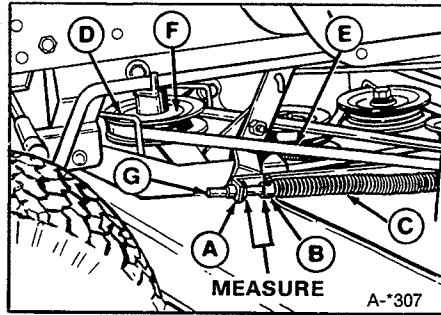

Figure 32. Mower Belt Adjustment
2. Measure the distance between the PTO rod guide (A, figure 32) and the set collar (B). For the 36" mower, the measurement should be  $3/8$  to  $1/2$  inch (10 to 13 mm). For the 42" & 48" mower, the measurement should be one inch (25.4 mm).
4. Loosen the setscrew in the set collar (B). Move the rod (G) forward to increase gap, or backward to decrease gap. Retighten the setscrew.
There are two belt stops at the PTO pulley; one on the left (D, figure 32) and one on the